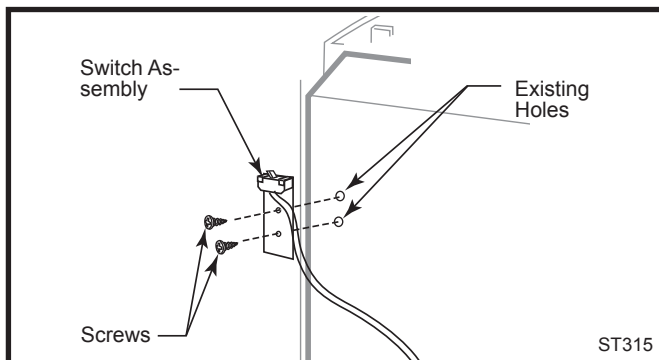

Fig. 52 Attach switch assembly to rear shroud.
1. Attach switch assembly to left rear side of stove shroud (when facing shroud) using two screws and existing holes in shroud. (Fig. 52)